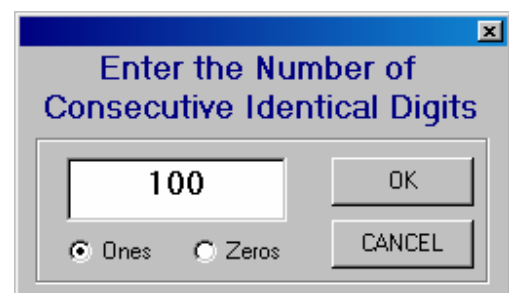

Figure 11. Creator Example Step #5
5. Add 100 1's to the end of the pattern by clicking the **Consecutive Digits** button, entering 100 in the box, selecting the **Ones** option and then by clicking on the **OK** button (Figure 11).